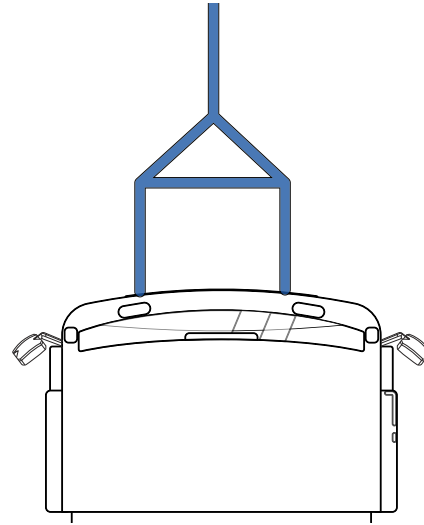

Figure 43 – Spreader bar
- Use a spreader bar to distribute the load between the tow hooks (**Figure 43**).